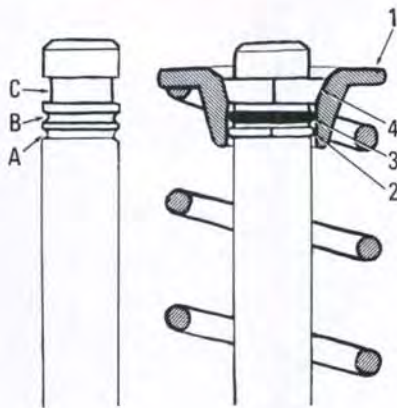

Fig. 19—Cross-sectional views of bare and assembled valves used in Model L260. Refer to paragraph 18 for assembly procedure.
On Model L260, valve stems have one wide and two narrow grooves as shown in Fig. 19. When installing valves, first install spring and retainer (1). Compress valve spring and install positioning circlip (2) in lower groove (A), sealing "O" ring (3) in middle groove (B) and split keepers (4) in wide upper groove (C); then release spring pressure after liberally oiling "O" ring. Retainer (1) cannot be installed with "O" ring in place on valve stem.